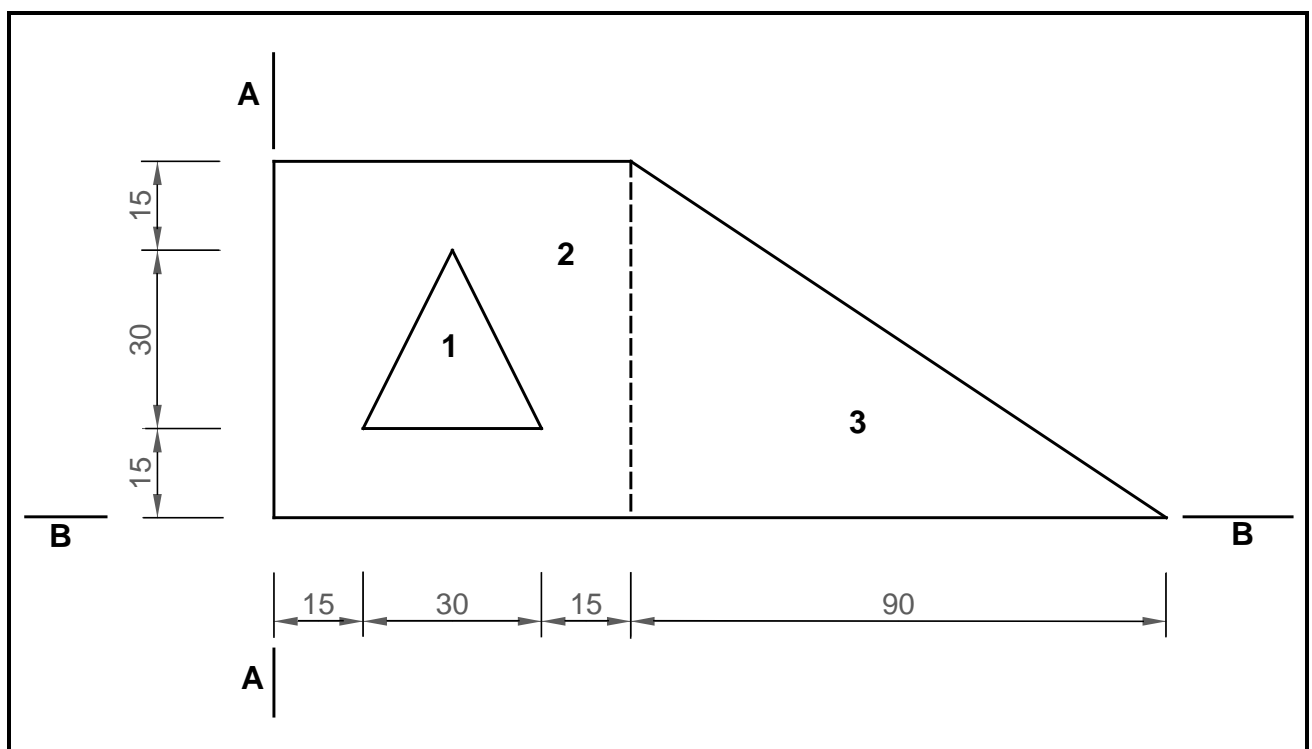

FIGURE 5.1
- 5.1 FIGURE 5.1 below shows a shaped lamina with an isosceles triangular hole. All dimensions are in millimetres.
Study FIGURE 5.1 and answer the questions by writing only the answer next to the question number (5.1.1–5.1.7) in the ANSWER BOOK, for example 5.1.8 2 900 mm².